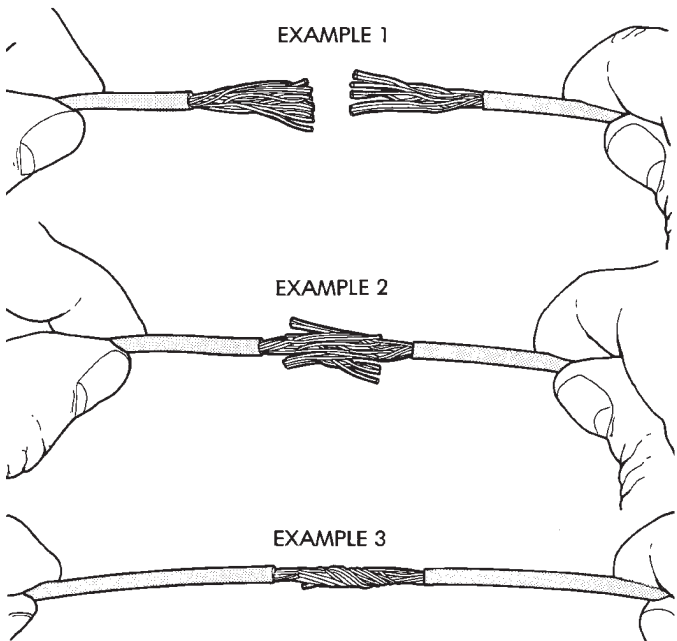
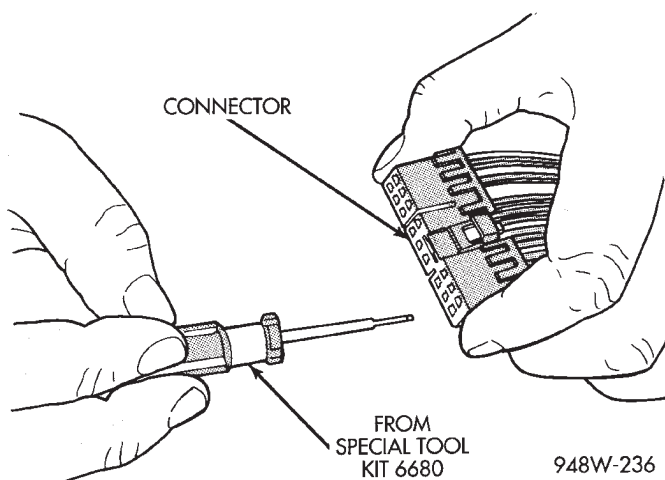
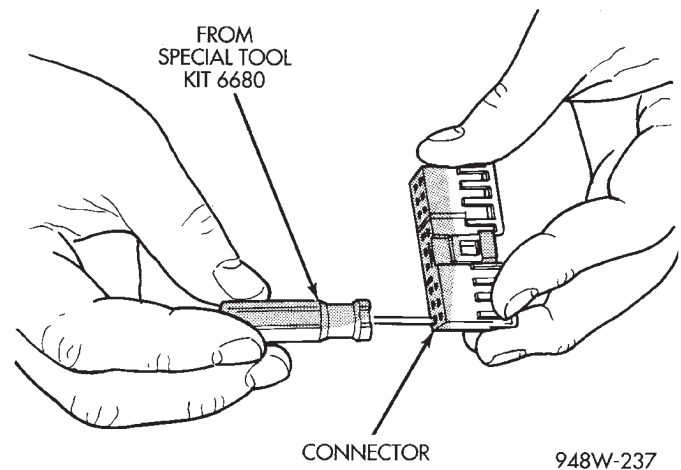

Fig. 11 Wire Repair
Fig. 15 Terminal Removal
Fig. 16 Terminal Removal Using Special Tool
- (1) Disconnect battery negative cable.
- (2) Remove 1 inch of insulation from each end of the wire.
- (3) Place a piece of heat shrink tubing over one side of the wire. Make sure the tubing will be long enough to cover and seal the entire repair area.
- (4) Spread the strands of the wire apart on each part of the exposed wires (Fig. 11 example 1).
- (5) Push the two ends of wire together until the strands of wire are close to the insulation (Fig. 11 example 2).
- (6) Twist the wires together (Fig. 11 example 3).
- (7) Solder the connection together using rosin core type solder only. **Do not use acid core solder.**
- (8) Center the heat shrink tubing over the joint, and heat using a heat gun. Heat the joint until the tubing is tightly sealed and sealant comes out of both ends of the tubing.
- (9) Secure the wire to the existing ones to prevent chafing or damage to the insulation.
- (10) Connect battery and test all affected systems.
- (4) Position the connector locking finger away from the terminal using the proper pick from special tool kit 6680. Pull on the wire to remove the terminal from the connector (Fig. 15, and Fig. 16).
- (5) Reset the terminal locking tang, if it has one.
- (6) Insert the removed wire in the same cavity on the repair connector.
- (7) Repeat steps four through six for each wire in the connector, being sure that all wires are inserted into the proper cavities. For additional connector pin-out identification, refer to the wiring diagrams.
- (8) Insert the connector locking wedge into the repaired connector, if required.
- (9) Connect connector to its mating half/component.
- (7) Remove 1 inch of insulation from each wire.
- (8) Place a piece of heat shrink tubing over one side of the wire. Be sure the tubing will be long enough to cover and seal the entire repair area.
- (9) Spread the strands of the wire apart on each part of the exposed wires (Fig. 11 example 1).
(10) Push the two ends of wire together until the strands of wire are close to the insulation (Fig. 11 example 2).
(11) Twist the wires together (Fig. 11 example 3).
(12) Solder the connection together using rosin core type solder only. **Do not use acid core solder.**
(13) Center the heat shrink tubing over the joint and heat using a heat gun. Heat the joint until the tubing is tightly sealed and sealant comes out of both ends of the tubing.
(14) Repeat steps 8 through 13 for each wire.
(15) Re-tape the wire harness starting 1-1/2 inches behind the connector and 2 inches past the repair.
(16) Re-connect the repaired connector.
(17) Connect the battery, and test all affected systems.
(4) Position the connector locking finger away from the terminal using the proper pick from special tool kit 6680. Pull on the wire to remove the terminal from the connector (Figs. 15 and 16).
(5) Cut the wire 6 inches from the back of the connector.
(6) Remove 1 inch of insulation from the wire on the harness side.